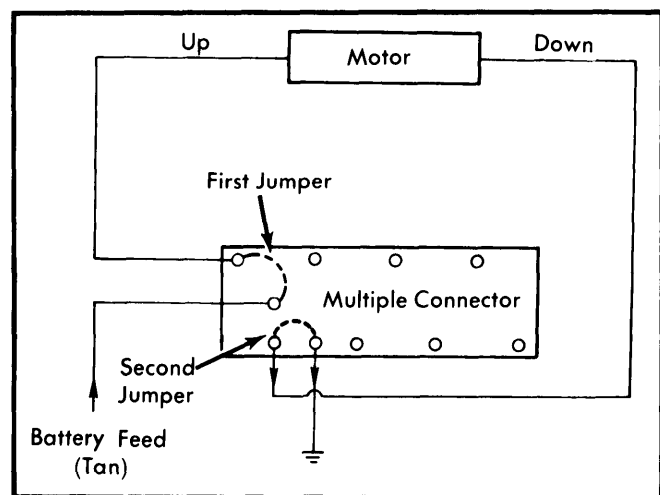

Fig. 1 Switch "UP" Test Circuit
1) Using two jumper wires, connect one jumper wire end to tan wire terminal and other end of jumper wire to "UP" terminal (see Fig. 1). Connect other jumper wire to "DOWN" terminal and ground (see Fig. 1).